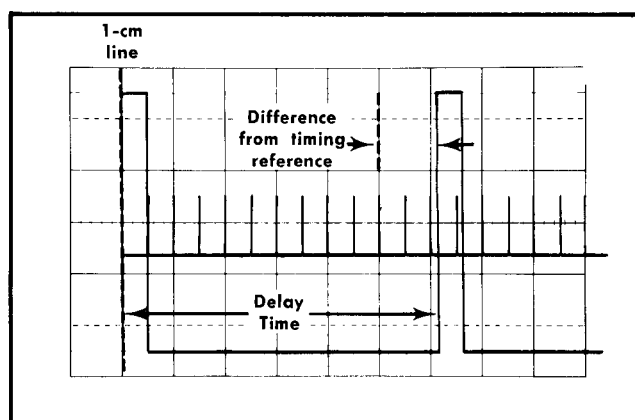

Fig. 6-15. Typical test oscilloscope display for checking delay timing adjustments; 500 μ s delay time.
e. CHECK FOR—Test oscilloscope display of the double pulse waveform with a delay period of 500 μ s between corresponding points on the two pulses (see Fig. 6-15), with 3% +10 ns of the reference waveform (\pm 1.5 mm over 5 cm).
m. CHECK FOR—Test oscilloscope displays with a delay period between corresponding points on the two pulses (see Fig. 6-15), as indicated in the last column of Table 6-8.